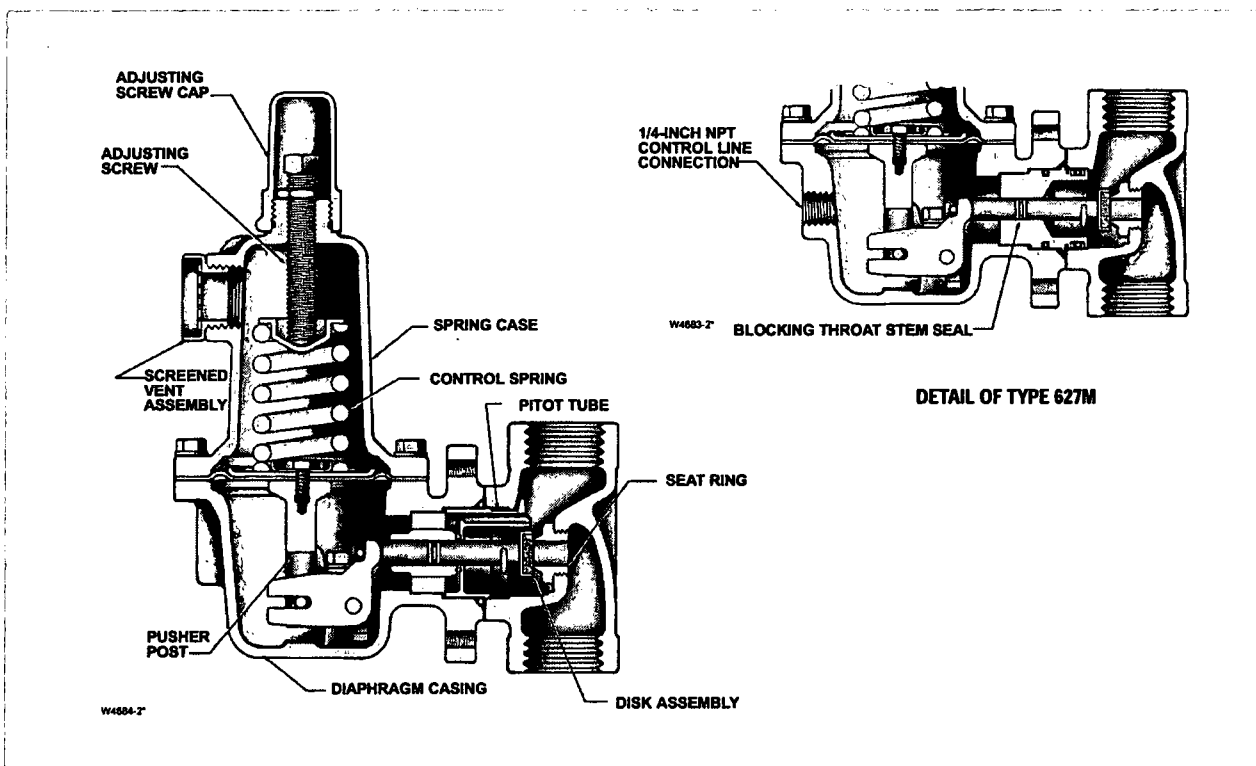

Figure 4. Type 627 and 627M Construction Details
- **Tamper-Resistant**—An adjusting screw locknut and protective cap (figure 4) is standard on all 627 Series regulators to discourage tampering with the pressure setting.
**Type 627:** Self-operated pressure reducing regulator equipped with a pitot tube for greater regulated capacities (figure 4)
**Type 627M:** Type 627 with a stem seal between the body outlet pressure and diaphragm case. Pressure is measured under the diaphragm through the 1/4-inch NPT downstream control line connection (figure 4)